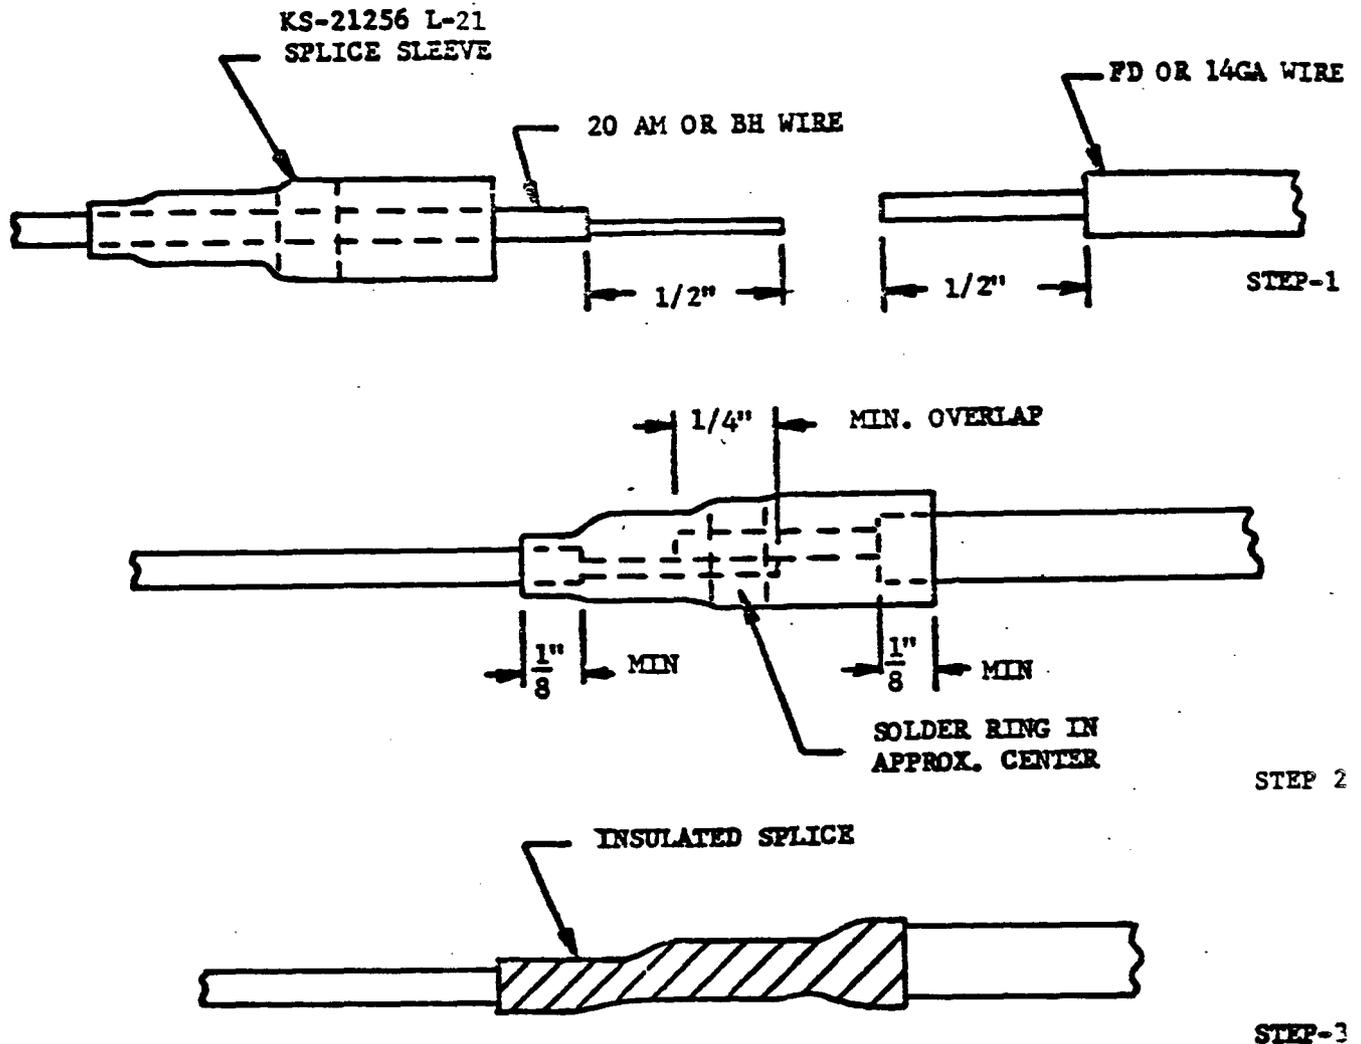

FIG. 14 METHOD OF SPLICING 20 AM OR BH WIRE
- a) Remove approximately 1/2 inch of insulation from the 20 gauge lead and apply the KS-21256 L-21 splice sleeve over the lead as shown in Figure 14, Step 1.
- c) Bring the two bare wire ends together so that they overlap a minimum of 1/4 inch and then slide the splice sleeve over the two leads so the solder ring is approximately centered as shown in Figure 14, Step 2.